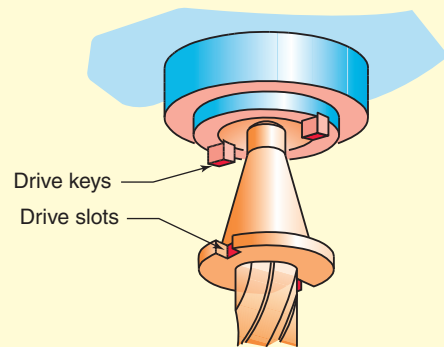

Figure 12-71 Caution, the keys can miss the slots!
- The second accident I've seen more than once is caused by not aligning the torque drive keys on the cutter taper with the flange slots on the mill spindle. From the top of the mill, the unseen cutter feels as though it is tightening since the flange is bottomed against the key tops, as would be the case in Fig. 12-71, if it were tightened in that position. However, with the first touch of the cutter to the work, the cutter spins, loses its hold, and a serious disaster ensues. Always check that the keys are in the drive slots!